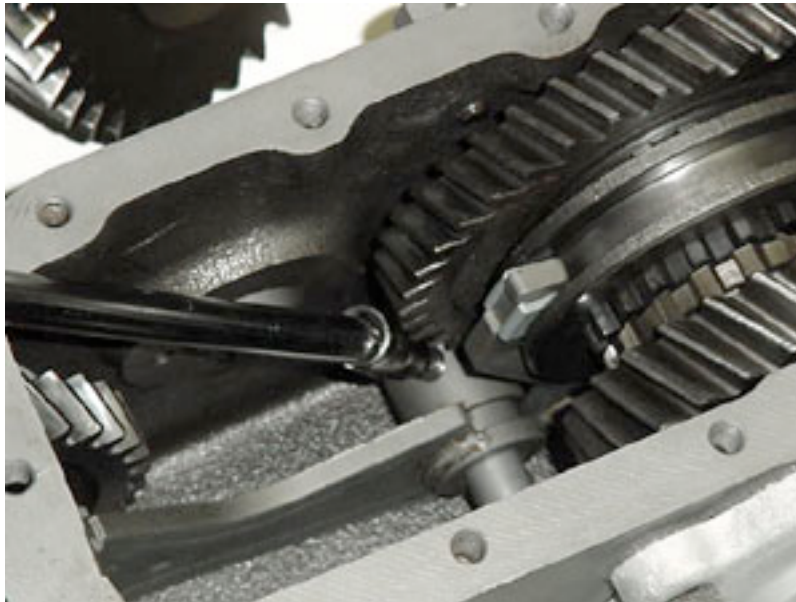

FIG: 4
4) Using a 3/16" allen socket, remove the two shift fork set screws (Fig.4).